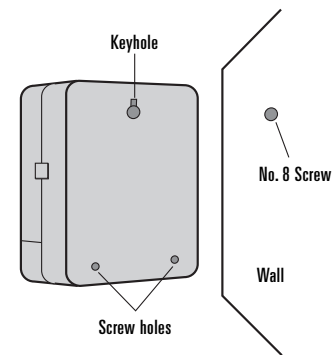

Figure 23: Mounting the Sprinkler Timer
- Slip the keyhole slot in the back of the sprinkler timer over the extended screw. [See Figure 23]